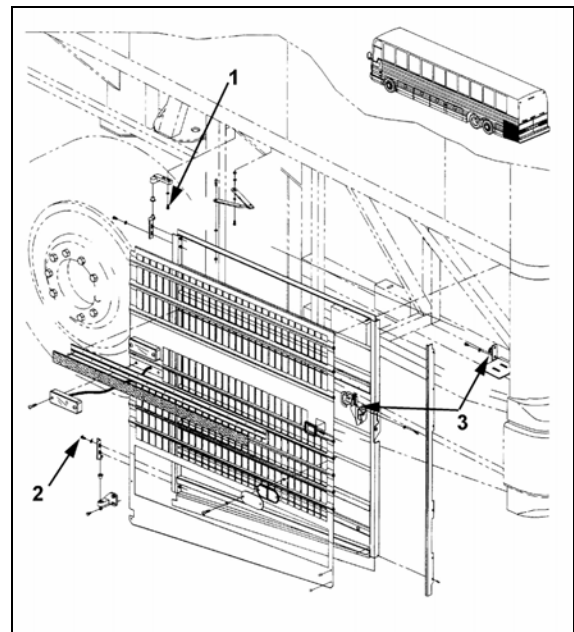

FIGURE 42: RADIATOR DOOR
1. Loosen the bolts, (1, Fig. 42) holding the hinge to the vehicle structure to shift the door "IN or OUT" and "UP or DOWN".
2. Loosening the bolts (2, Fig. 42) allows the door to be shifted "LEFT or RIGHT" and "UP or DOWN".
To adjust the latch mechanism (3, Fig. 42) and the striker pin: